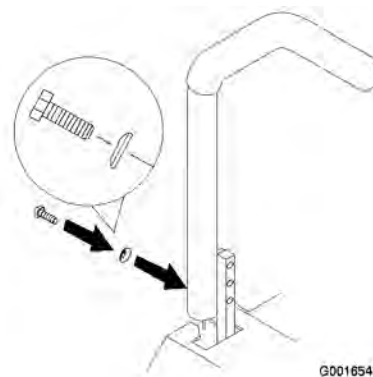

Figure 11
1. Rotate the handles to the upright position (Figure 11).
2. Loosely install the levers on the outside, using 4 bolts and curved washers (Figure 11).